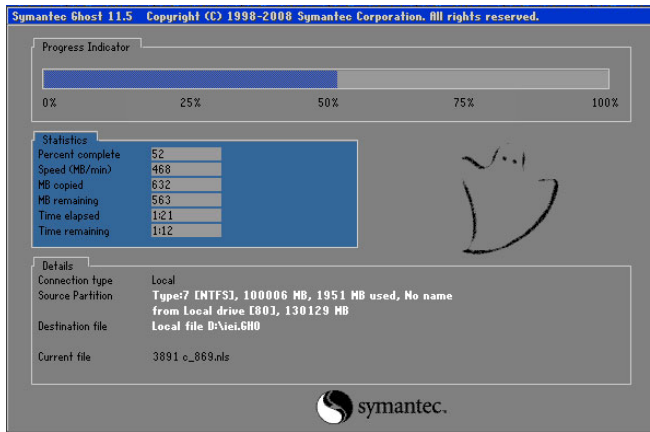

Figure D-28: Image Creation Complete
Step 8: The Symantec Ghost starts to create the factory default image (Figure D-28).